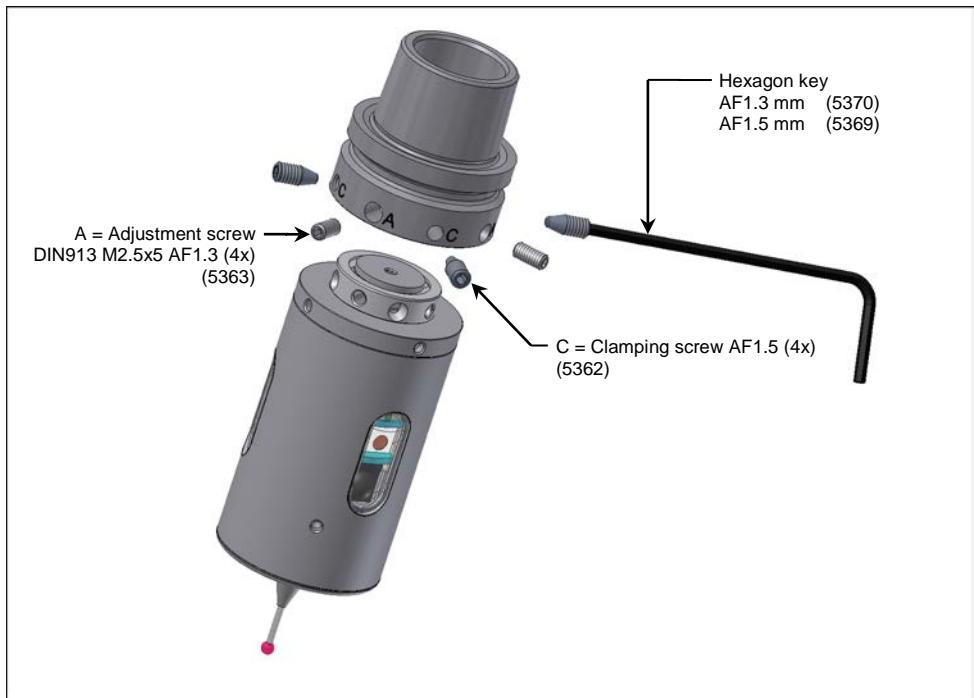

Fig. 5 Mounting/Dismounting the Shank
- 1.1. Remove all „A“ and „C“ screws (refer to Fig. 5)